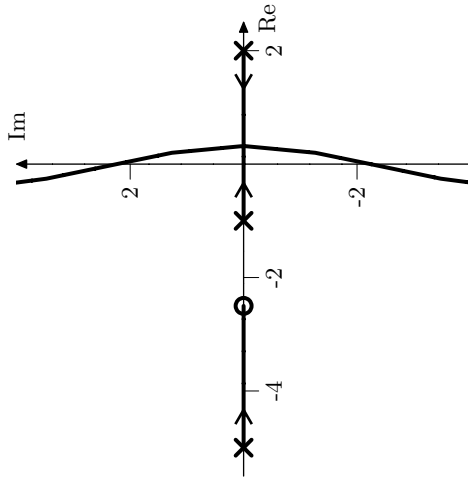
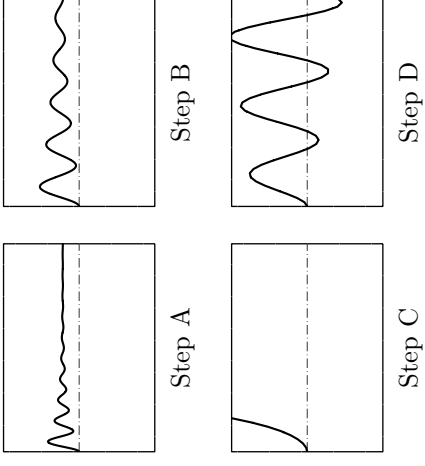

Figure 3.12a. Starting points are marked  $\times$  and end points  $o$ .
Figure 3.12b. All comparable axes have equal scaling.
3.12 Figure 3.12a shows the root locus for the characteristic equation of a P-controlled process  $G$  with respect to the gain  $K$ . In Figure 3.12b four step responses for the closed loop system with different values of  $K$  are shown. Match the plots in Figure 3.12b with the  $K$ -values below. Justify your answer.